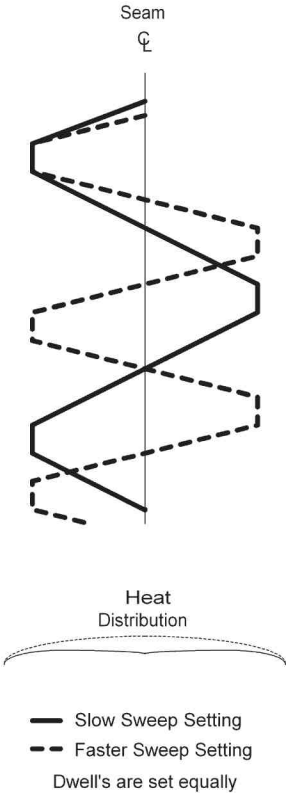
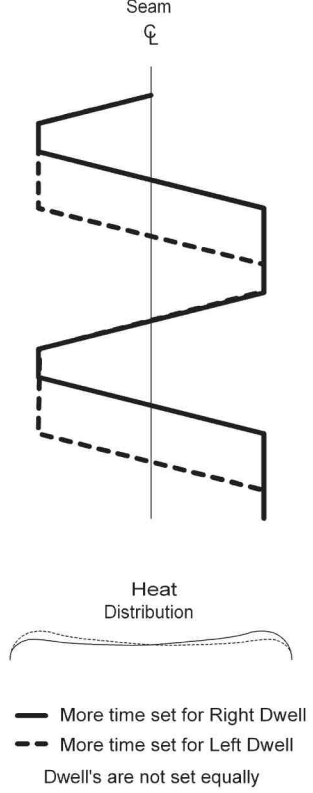

FIGURE 17 - SWEEP SETTINGS
FIGURE 18 - DWELL SETTINGS
The Sweep function controls the speed in which the magnetic field changes from the left dwell position to the right dwell position. See Figure 17 - Sweep Settings on page 16. Generally, a fast welding travel speed requires higher frequency oscillation or a lower Sweep Dial Setting.
The Left and Right Dwell functions of the control unit control the amount of time the arc will remain on either side during oscillation. See Figure 18 - Dwell Settings on page 16. The settings are independently adjustable.
- As you turn the Sweep control clockwise, you will also notice the arc oscillation cycle decreasing in speed, because we have added time to the left to right dwell transistions and vice-versa. See Figure 17 - Sweep Settings and Figure 18 - Dwell Settings on pages 16 and 16, respectively, for visual explanations of these functions.